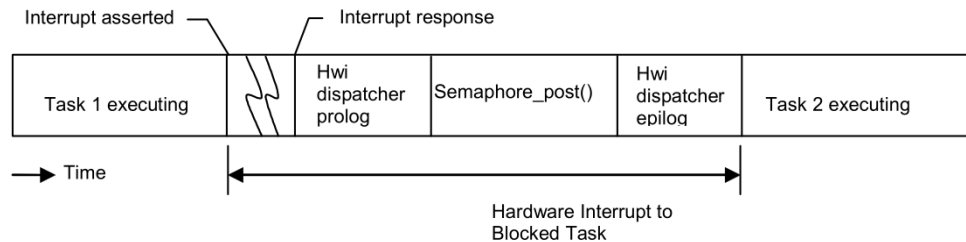

Figure B-1 Hardware Interrupt to Blocked Task
2. Use the “Hardware Interrupt to Blocked Task” benchmark (see figure B-1).
Hardware interrupt to blocked task. This is a measurement of the elapsed time from the start of an ISR that posts a semaphore, to the execution of first instruction in the higher-priority blocked task, as shown in Figure B-1.